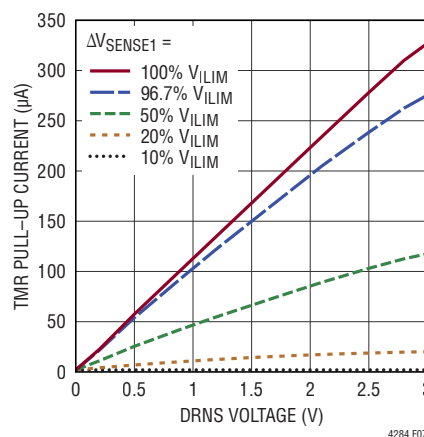

Figure 7. TMR Pull-Up Current vs  $\Delta V_{SENSE1}$  and DRNS Voltage
**Case 1.** If active current limit is engaged in normal operation (power good signals are asserted), the TMR pull-up current of the LTC4284 is proportional to the attenuated drain voltage of the MOSFET at DRNS (top line in Figure 7). This is proportional to the power dissipation since the current through the MOSFET is fixed during
Figure 7 shows the TMR pull-up currents vs  $V_{DRNS}$  at four different  $V_{SENSE1}^+ - V_{SENSE1}^-$  levels below current limit.